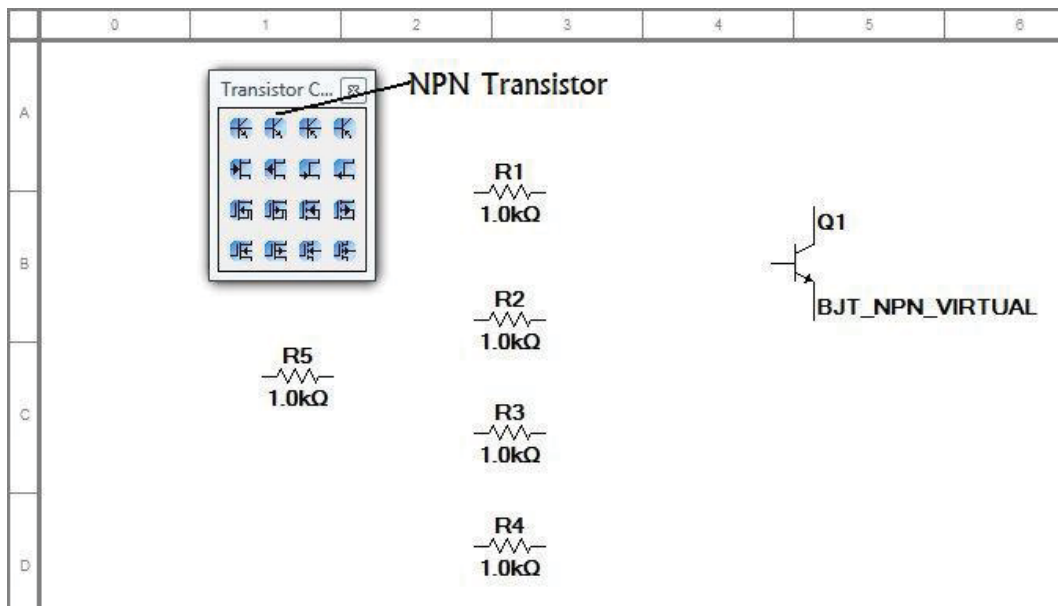

Figure 11
3. Now open the transistor parts bin, and drag out a NPN transistor. See Figure 11 for the location of the parts bin and schematic symbol for a NPN transistor.